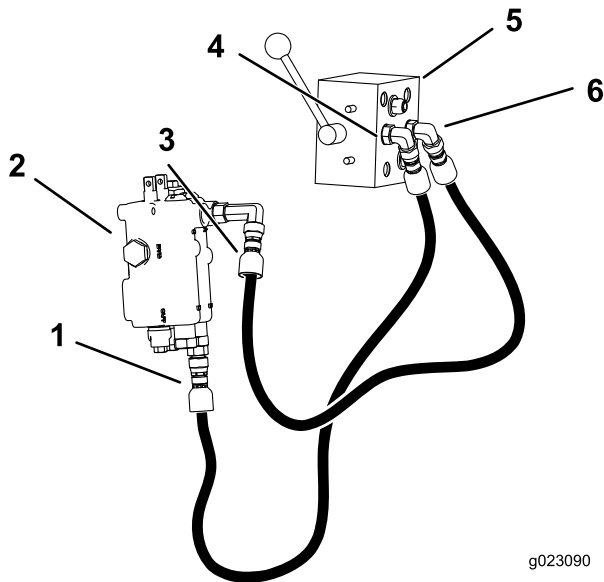

Figure 24
14. Connect the 26-inch hose to port B on the control valve to port A on the attachment lift (Figure 24).
16. Connect the 31-inch hose to port A on the control valve to port B on the attachment lift (Figure 24).